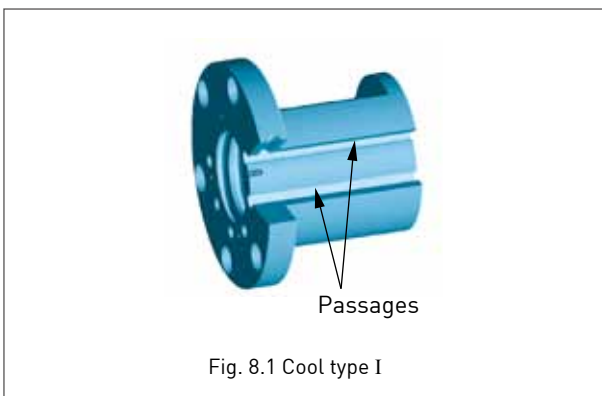

Fig. 8.1 Cool type I
• Cool type I as shown in the Figure 8.1: